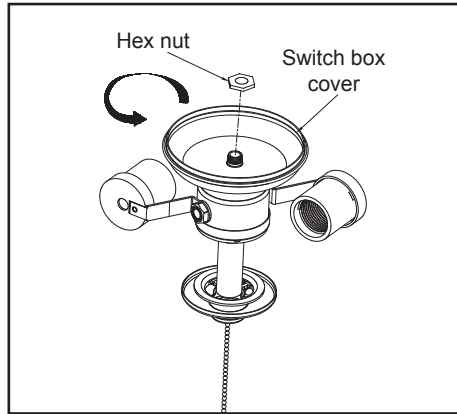

Figure 17
1. In order to use the fan without the light kit , remove the switch box housing from the top of light kit fitter assembly by removing the center hex nut inside the switch box housing, and then thread the switch box housing off the threaded nipple on the top of the light kit fitter assembly (figure 17).